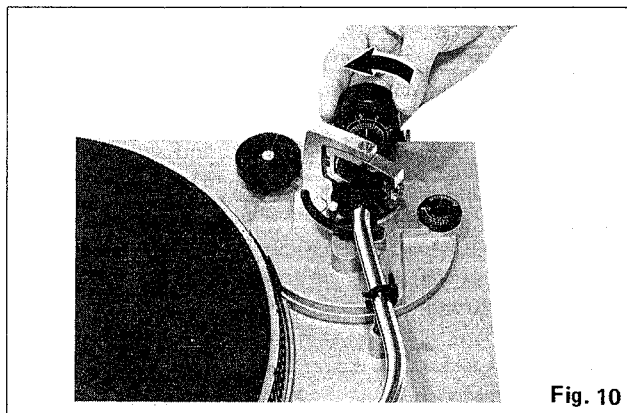

Fig. 10
- After adjusting the horizontal zero (0) balance, turn the balance weight clockwise in the direction of the arrow and align to the correct stylus pressure. (See Fig. 10)